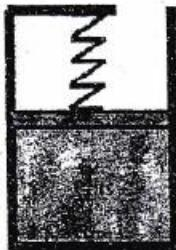

Figure P.8
8. A piston-cylinder device shown in Figure P.8 contains 0.05 m^3 of a gas initially at 200 kPa . At this state, a linear spring that has a spring constant of 150 kN/m is touching the piston but exerting no force on it. Now heat is transferred to the gas, causing the piston to rise and to compress the spring until the volume inside the cylinder triples. If the cross-sectional area of the piston is 0.25 m^2 , determine the final pressure inside the cylinder. [6]